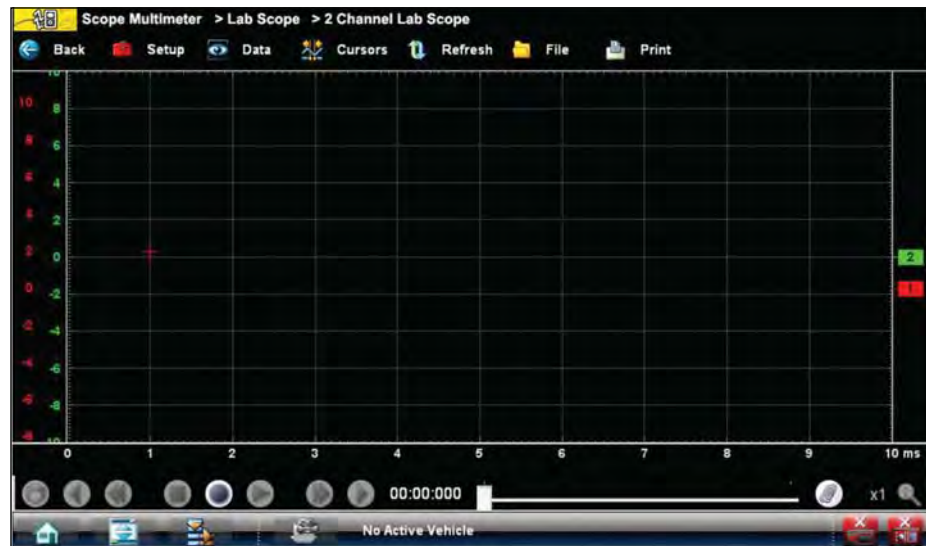

Figure 9-14 Sample grid selected
- **Show Grid**—switches grid lines on the screen off and on (Figure 9-14).